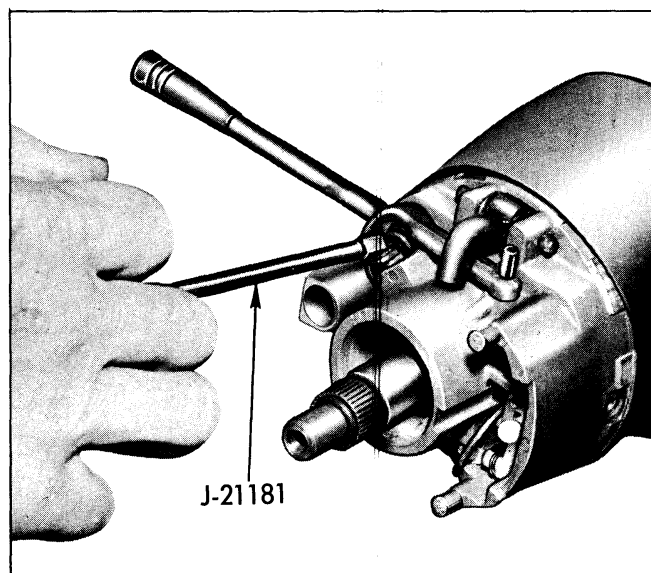

Fig. 9-26 Unseating Springs
13. Install tilt release lever, lift up and allow column to full up position, then unseat upper ends of tilt return springs with tool J-21181 (Fig. 9-26) or screwdriver.